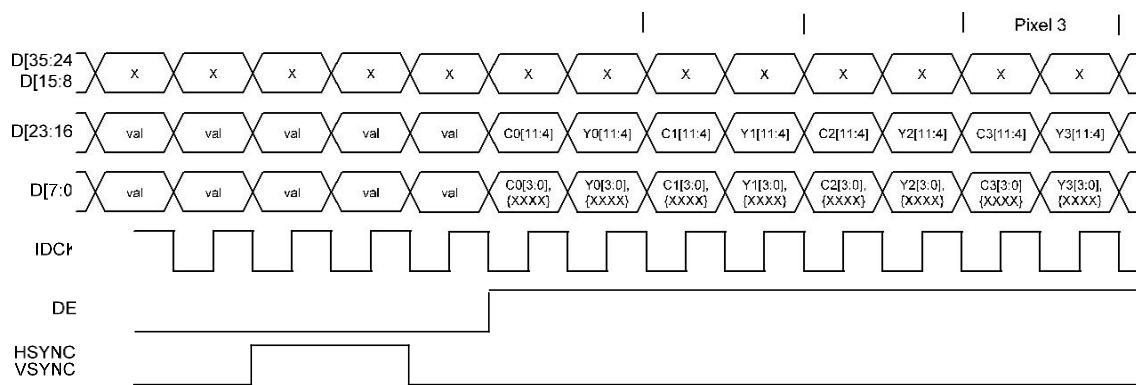

Figure 32. YC Mux 4:2:2 Timing Diagram
The video data is multiplexed onto fewer pins than the mapping in Table 25, but a luma (Y) is provided each pixel, and either a Cb or a Cr value each pixel, since the clock rate is doubled. Figure 32 shows the 12-bit mode. The 10-and 8-bit mappings fewer input pins the pixel data. Note the explicit syncs.